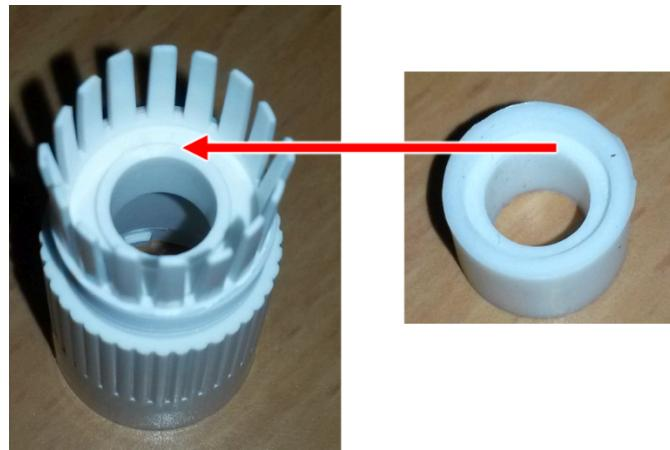

Figure 13. Rubber Gasket Inset Ridge: Fitting on Ridge Inside Endcap
4. If needed, insert the rubber gasket (5) into the endcap (4). If there is a ridge, fit the rubber gasket into the ridge on the ridge inside the endcap (see Figure 13).